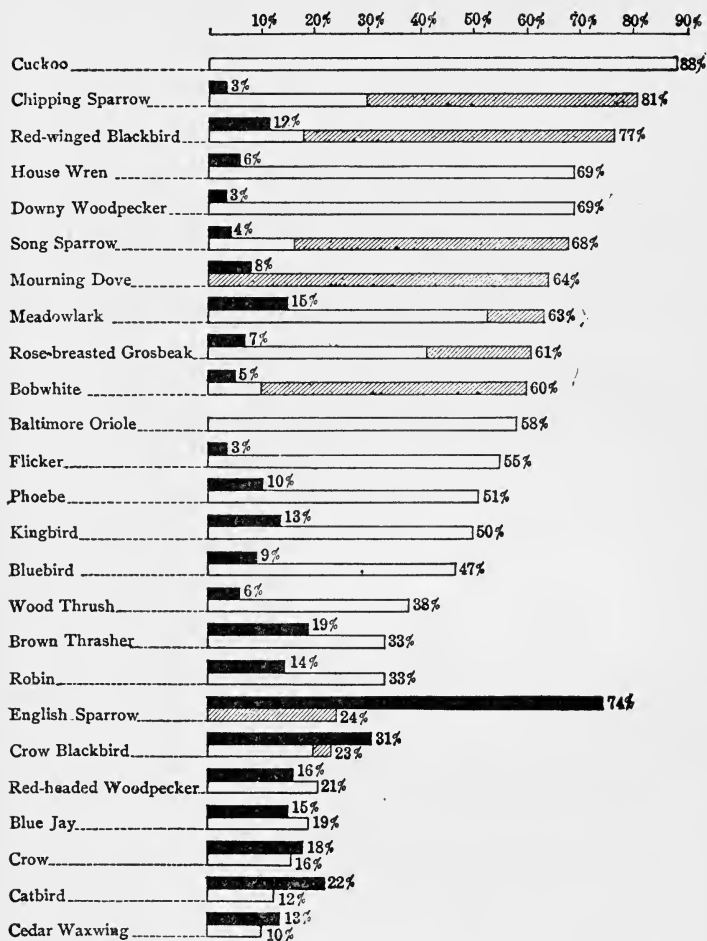

FIG. 183. — Food Chart of 25 Common Birds.
12. Arrange the birds according to the ratio between the good and harm done. Place the cuckoo and oriole at the head of the list. For the others divide the percentage of good done by the percentage of harm done. For example, for the chipping sparrow divide 81 by 3 (27). Do the same with the others and arrange them in order, the bird with the largest number first. Which five birds stand first in the list? Which five last?
13. (Optional.) If you wish you may make a chart from this table similar to the one in Figure 183. This chart is to represent the ratio between the good and harm done. Let one inch represent 5. Then for the chipping sparrow draw a line $5\frac{2}{3}$ ($\frac{27}{5}$) inches long. In a similar way draw lines for the other birds, arranging them in the order of the length of the line, the longest first. Make the lines for the cuckoo and oriole two inches and one inch, respectively, longer than that for the chipping sparrow.